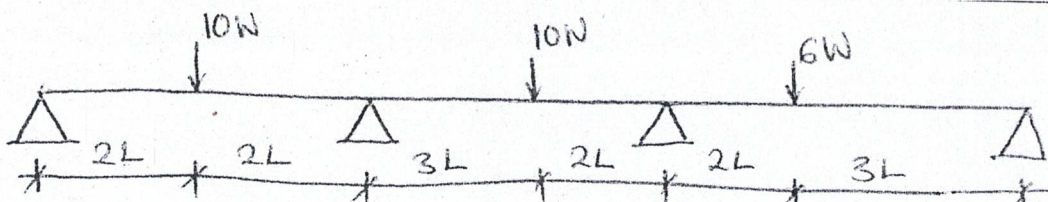

Fig Q3b
b) Consider a three span continuous beam, in Fig Q3b, of uniform section throughout. Use the kinematic method to determine the collapse load.